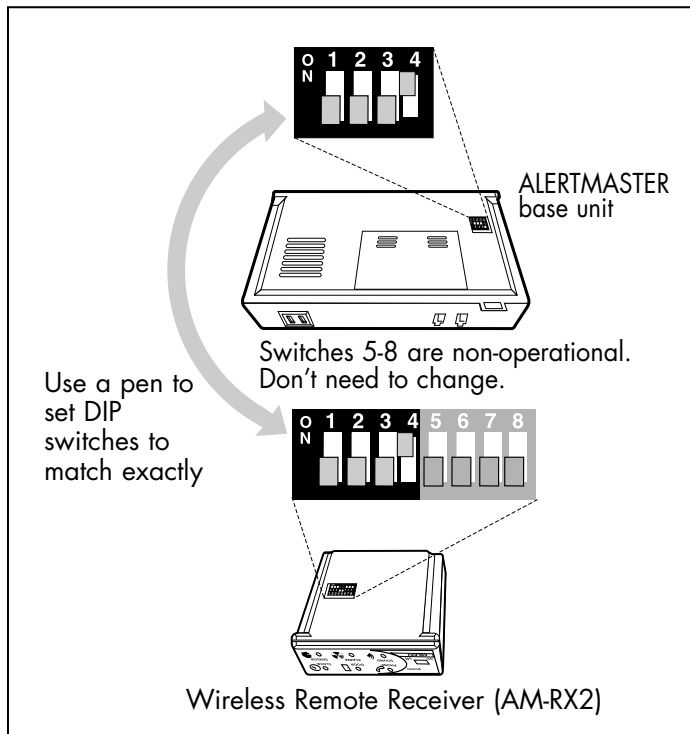

Fig. 3
3. Use a pen to change the DIP switch position on both units. For example, change the position of switch #4 on both units. All settings need to be identical for the system to work. See Fig. 3.
Receiver does not activate in conjunction with base unit.	The DIP switches may be incorrectly set. The DIP Switches on the underside of the AM-RX2 should match the switch settings on the base of the AM-6000 as in Fig. 3.